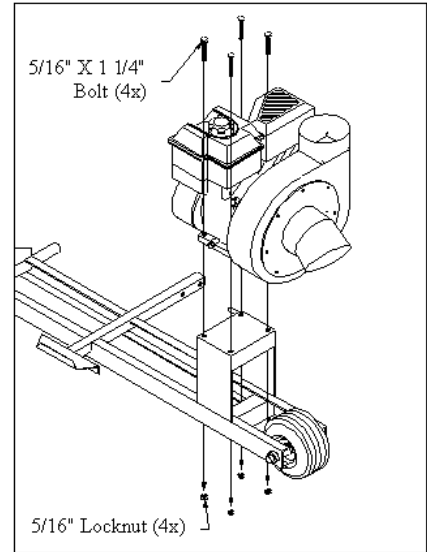

Fig. 3
3. With turbine housing (3) facing front of frame, align engine with engine plate holes and secure with four $\frac{5}{16}$ " x $1\frac{1}{4}$ " bolts and $\frac{5}{16}$ " locknuts. **Fig. 3**